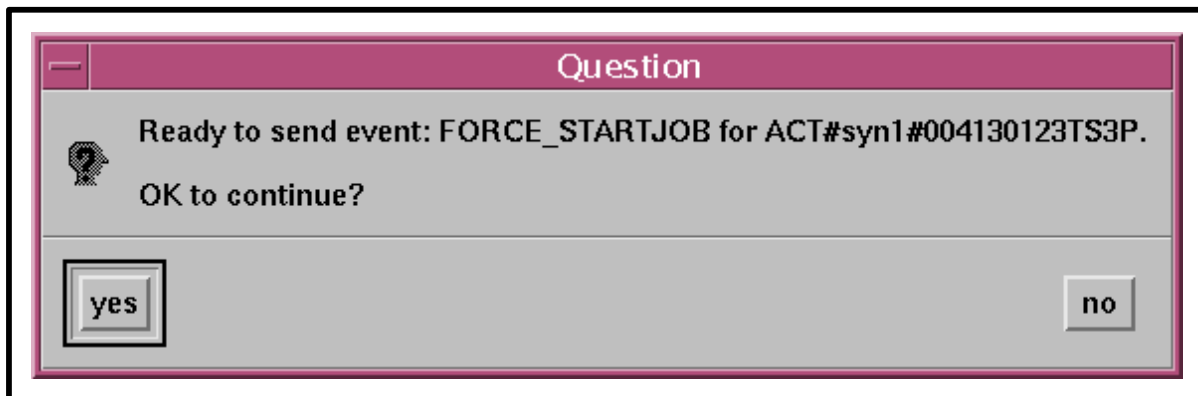

Figure 77. Send Event GUI Confirmation Dialogue Box
- A confirmation dialogue box similar to Figure 77 is displayed requesting permission to proceed with sending the event.
- A confirmation dialogue box similar to Figure 77 is displayed requesting permission to proceed with canceling the event.